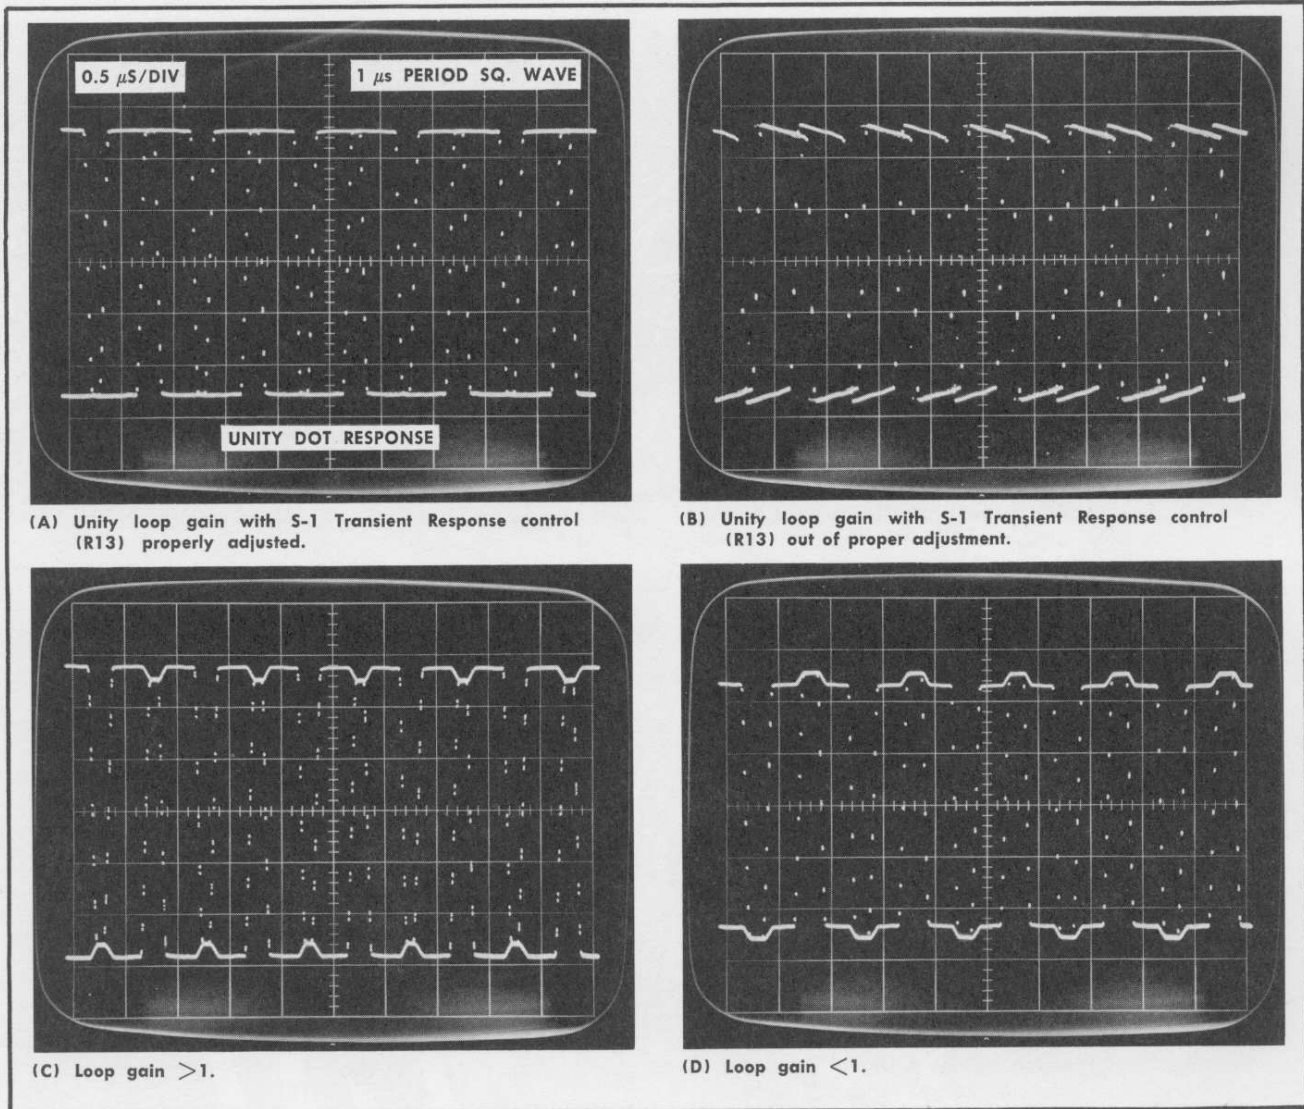

Fig. 6-7. Type 352/5-1 waveforms when signal is $1 \mu\text{s}$ period square wave. Timebase was double triggered to show dot response.
b. Set the sampling sweep unit for 500 ns/div (0.5 μs/div). Obtain a double triggered display on the indicator oscilloscope by free running the time base and adjusting the Recovery Time control. The display should be similar to any one in Fig. 6-7.
e. Adjust the Type 352 Trigger Sensitivity and Recovery Time controls for a double-triggered indicator oscilloscope display similar to any in Fig. 6-7. The test oscilloscope display should be like one of the waveforms shown in Fig. 6-8 when the sampling head is a Type S-1 and like Fig. 6-9A if the sampling head is a Type S-2. (It is recommended that a Type S-1 be used if available.)